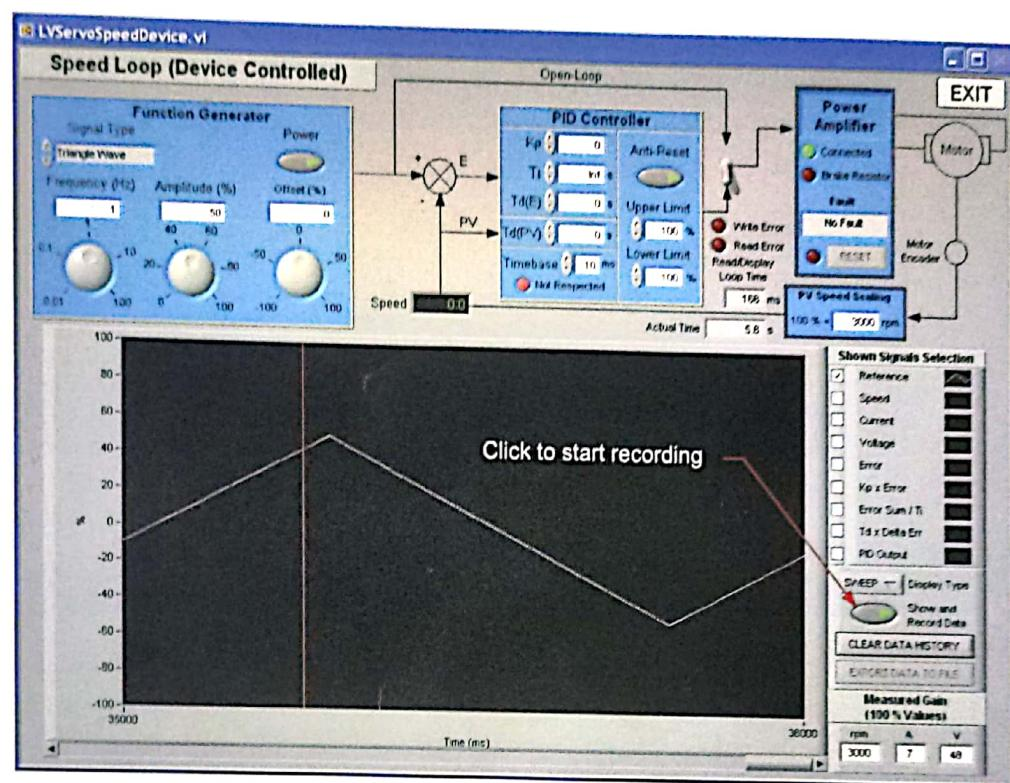

Figure 11. Triangle wave screen capture.
14. A screen similar to Figure 11 appears. The triangular wave on the screen may be shifted to the right or left depending on when the screen capture was initiated.